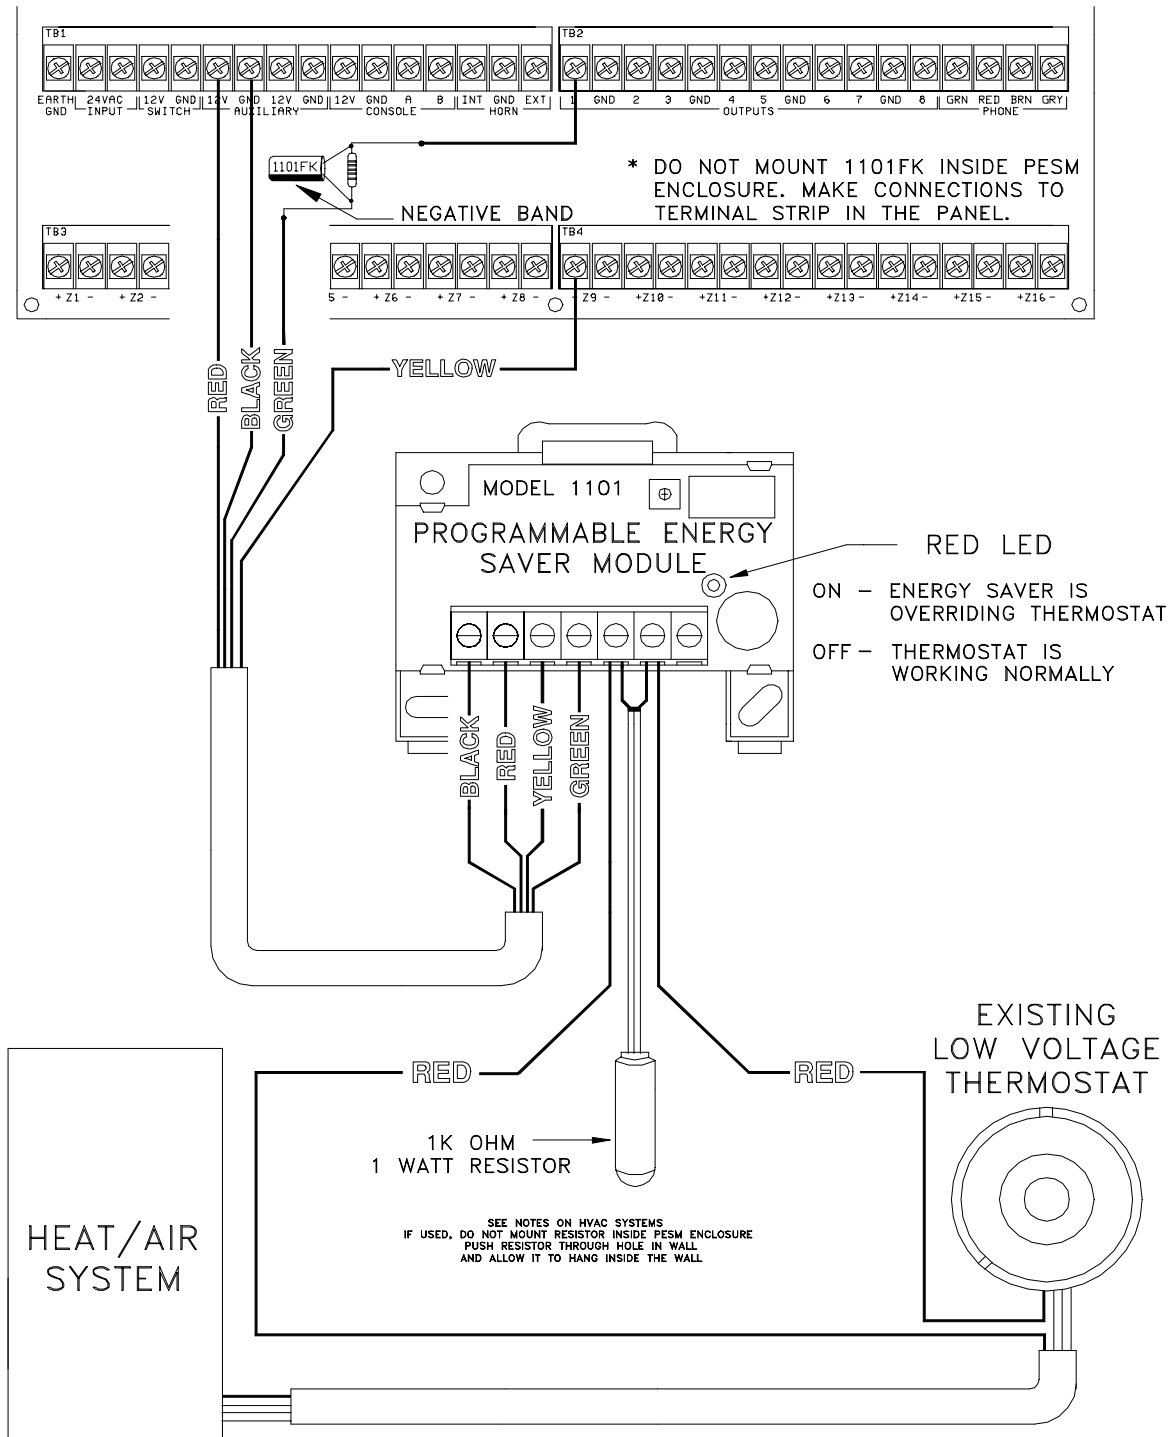

FIGURE 9
2. Run a 4 conductor wire from the Omni controller to each Model 1101. Connect as shown in FIGURE 9. Be sure to install the 1101FK (included with PESM) as shown. The 1101FK reduces self-heating of the PESM relay.
The PESM is provided with an encapsulated 1K ohm resistor attached to a length of wire. In mechanical thermostats, the resistor allows enough current to keep the air conditioning mode "anticipator" in the thermostat warm. This decreases the response time for the air conditioner to come on when the Energy Saver is turned off. The resistor should be installed as shown in Figure 9.